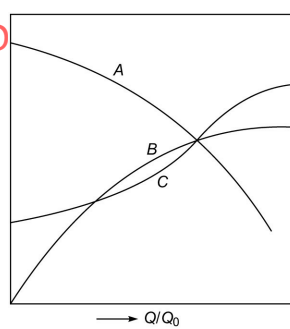

Fig. Q. 52
52. The operating characteristic curves of a centrifugal pumps are shown in Fig. Q. 52 curve A is for
53. In Fig. Q. 52, Curve B is for
54. In Fig. Q. 52, Curve C is for